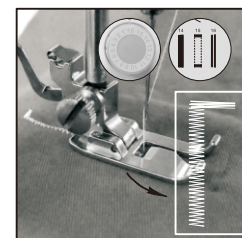

Fig.16
- (3) Choose the 16th stitch, turn on switch and sew on the cloth in suitable length, then turn off switch. Note that try to keep sewed stitch in straight line (Fig. 16).